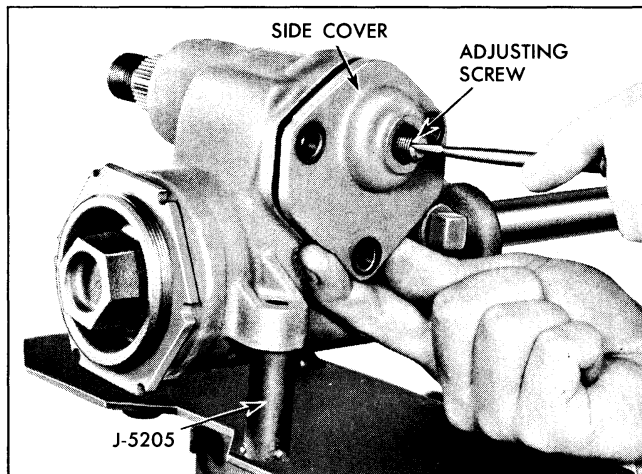

Fig. 9-33 Removing Side Cover
3. Remove side cover and gasket by turning adjusting screw clockwise through cover (Fig. 9-33).